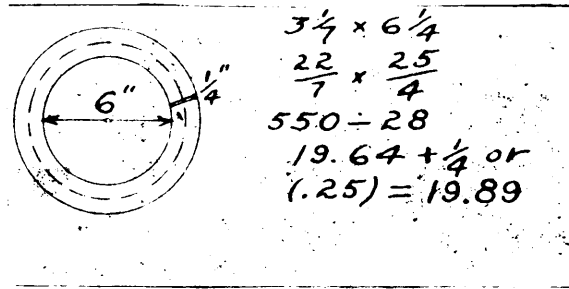

Figure 10.
3. Another method of calculating the length of rings or bands is shown in Figure 10.  $3\frac{1}{4}$  times inside diameter of the ring plus thickness or diameter of the stock. As was mentioned in No. 2, if the ring is to be welded, an allowance must be made for the weld equal to the thickness of stock. For a welded ring  $8\frac{3}{4}$ " by  $\frac{1}{4}$ " would need 9" of stock. This method will determine the length to the hundredth of an inch.